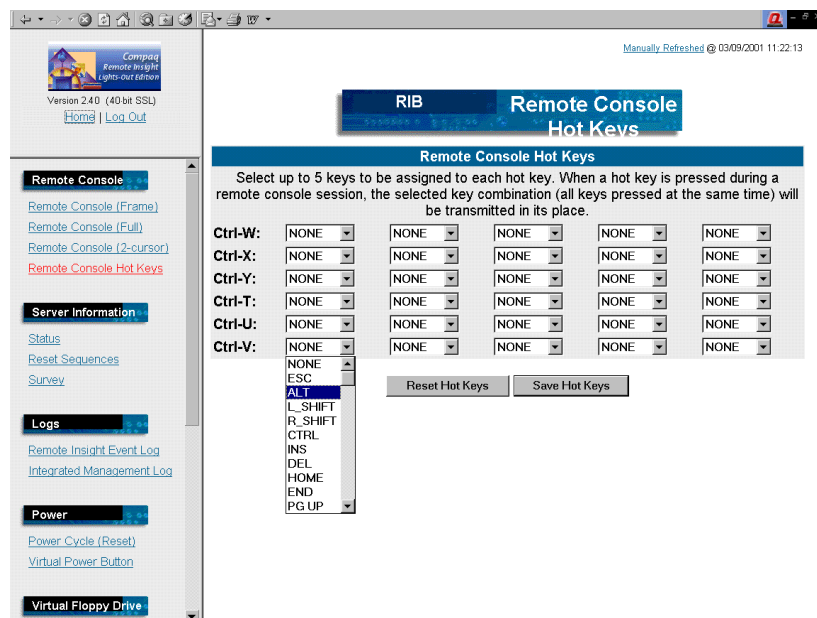

Figure 5-3. Remote Console Hot Keys definitions
1. Click **Remote Console Hot Keys**, located in the **Remote Console** section of the **Remote Insight** navigation frame. A screen similar to Figure 5-3 displays.